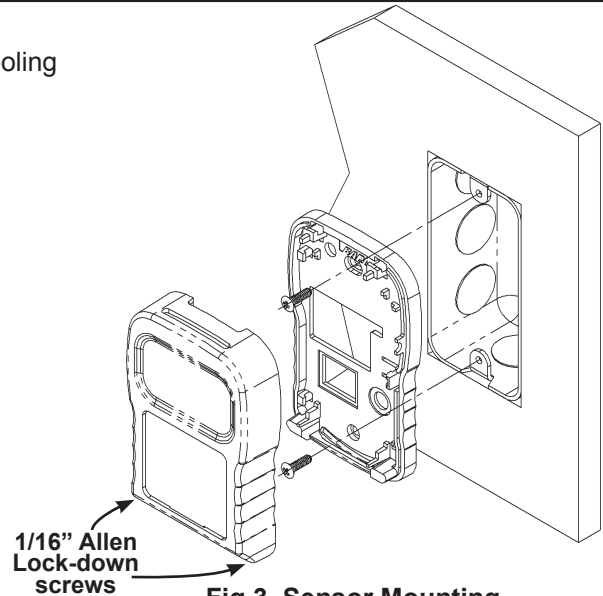

Fig 3. Sensor Mounting
JUNCTION BOX MOUNTING: (Fig. 3)
11. Secure the cover by backing out the lock-down screws using a 1/16" Allen wrench until the screws are flush with the bottom of the cover (see Figure 3).